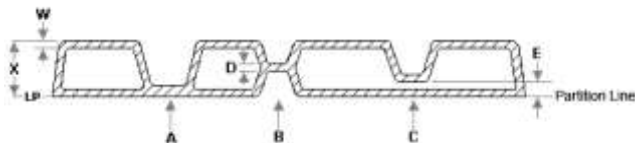

Figure 1. Design details of the flat or double wall rotomolded part.
- The inner separation between part surfaces (X in Figure 1) must be at least three times the nominal wall thickness (W) [2], however this ratio should be used only in extreme cases. The minimum standard separation should be five times the wall thickness ($X \geq 5W$) [1].
- A commonly used feature to provide extra stiffness to the part is the so-called *kiss-off* [3], shown as A and B in Figure 1.
- Kiss-offs* combined wall thickness (D in Figure 1) must be 1.75 times wall thickness ($D = 1.75W$). [1]
- Gap (E in Figure 1) of pseudo-reinforcements (C) must be at least three times wall thickness ($E \geq 3W$) although a clearance of five times wall thickness is even better. [1]